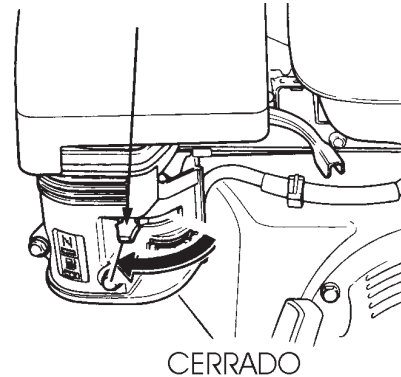

Figure 22. Choke Lever (Closed)
7. If the engine has started, slowly return the choke lever (Figure 22) to the **CLOSED** position. If the engine has not started repeat steps 1 through 6.